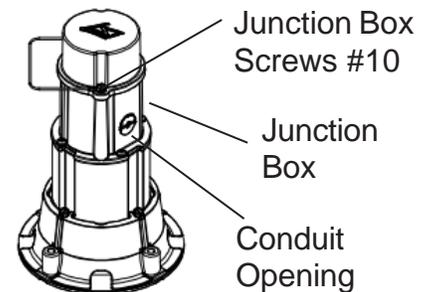

Figure 6
- For access to branch terminations, remove (2) #10 hex-head fasteners (Fig. 6).
- Re-install Junction Box Cover with (2) #10 hex-head fasteners. Ensure Junction Box Gasket is sealed upon re-assembly.